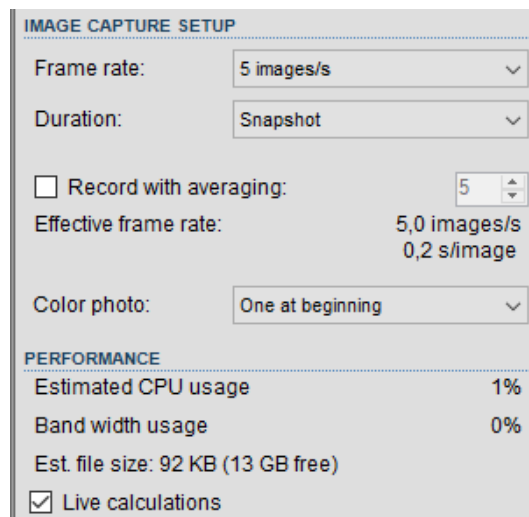

Figure 6-4 Image capture setup.
- Under IMAGE CAPTURE SETUP (Figure 6-4), select the number of images per second to record from the *Frame rate* drop-down list.